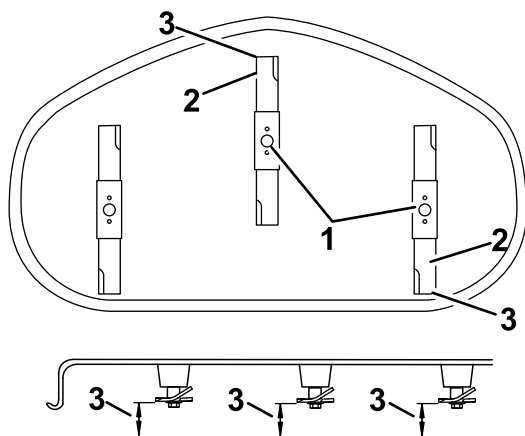

Figure 61
4. Carefully rotate the blades so they are facing front to rear (Figure 61).
5. Measure from the tip of the front blade to the flat surface and the tip of the rear blade to the flat surface (Figure 61).